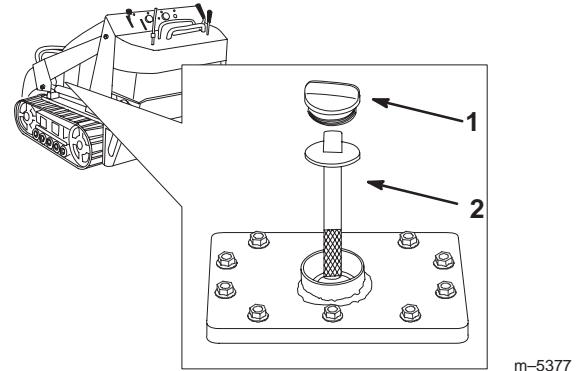

Figure 44
5. Remove the hydraulic tank cap and dipstick (Fig. 44).